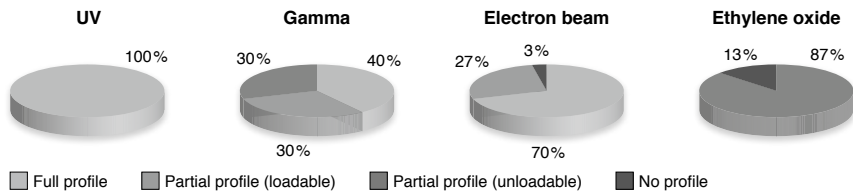

Figure 1: According to Shaw *et al.*, 2008, Comparison of the effects of sterilization techniques on subsequent DNA profiling. *Int J Legal Med* 122: 29-33.
NucleoSpin® Tissue XS is certified as forensic quality product. Consumables used in forensics need to be treated carefully to prevent DNA contamination. MACHEREY-NAGEL therefore has a stringently controlled production process to avoid DNA contamination of consumables. Further, MACHEREY-NAGEL uses ethylene oxide (EO) treatment to remove amplifiable DNA, which might still be introduced during the manufacturing process. MACHEREY-NAGEL products carrying the forensic quality seal, contain plastic materials that are EO treated. This means, DNA of any kind, which might still be introduced into plastic consumables during the production process, is inactivated by means of the treatment with ethylene oxide, in order to prevent the generation of accidental human profile by PCR amplification. Ethylene oxide treatment has been shown to be the method of choice to prevent DNA profiles due to DNA contamination (Shaw *et al.* 2008; Figure 1).